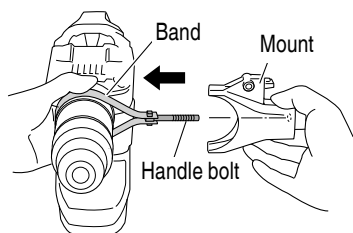

Fig. 5
- (3) As you hold the band to make sure the handle bolt won't come loose, insert the handle bolt into the mount. (Fig. 5)